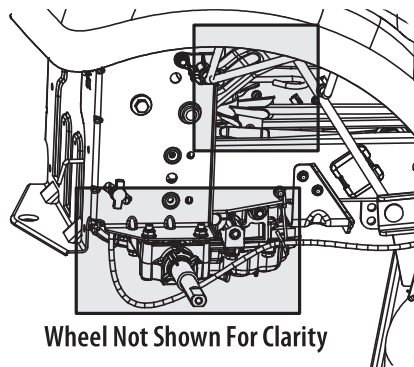

Figure 32
- Clean around and near the transmission, axle and the fan area. See Figure 32.